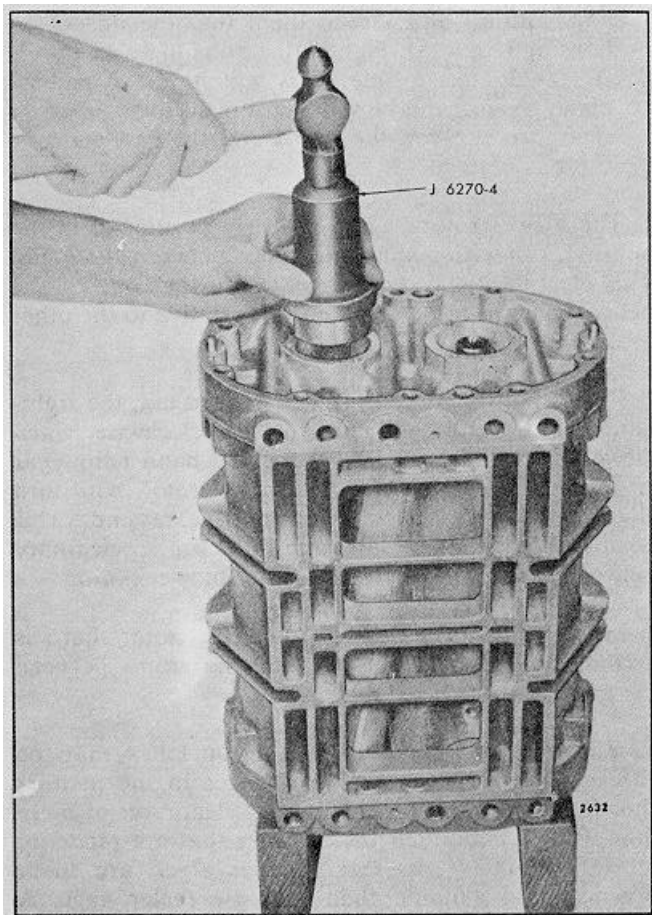

FIG. 21 - Installing Roller Bearings on Rotor Shafts and in Front End Plate
- a. Reverse the position of the blower housing on the two wood blocks (Fig. 21).
- b. Place installer J 6270-4 on top of the bearing and tap the bearing straight on the shaft and into the front end plate as shown in Fig. 21.